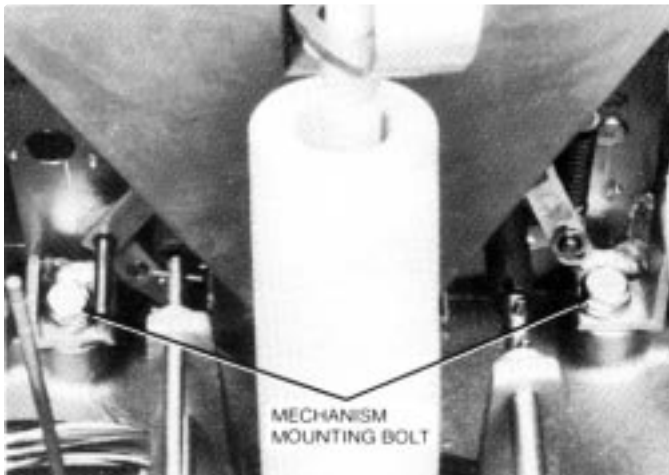

Figure 22.
5. Close the recloser to gain access to the attaching bolt located under the main shaft (Figure 22) and remove bolt.